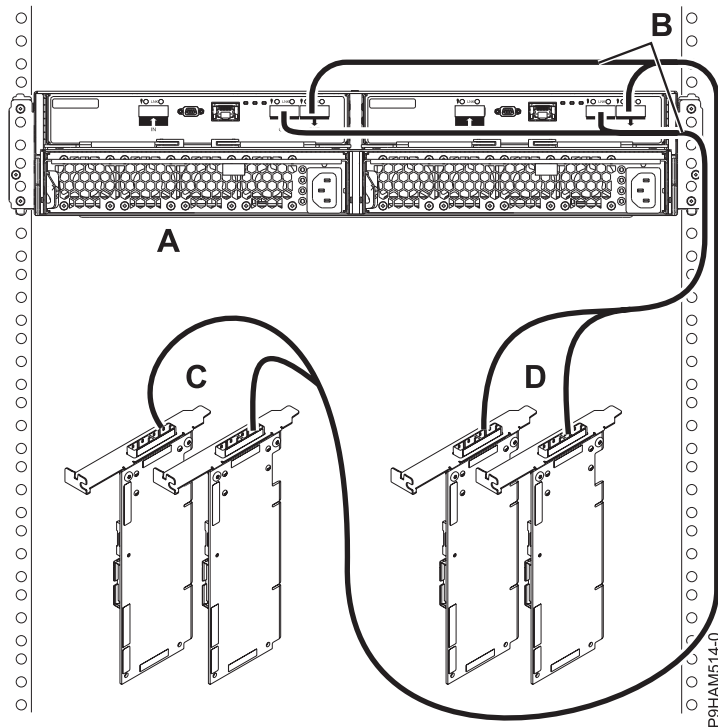

Figure 28. Mode 2 connection of one 5887 disk drive enclosure by using X cables to two SAS adapter pairs
19. Complete the mode 2 connection of one enclosure (A) by using X cables (B) to two SAS adapter pairs (C and D) as shown in Figure 28 on page 26, and then continue with “Connecting cables, power cords, and installing covers” on page 28.